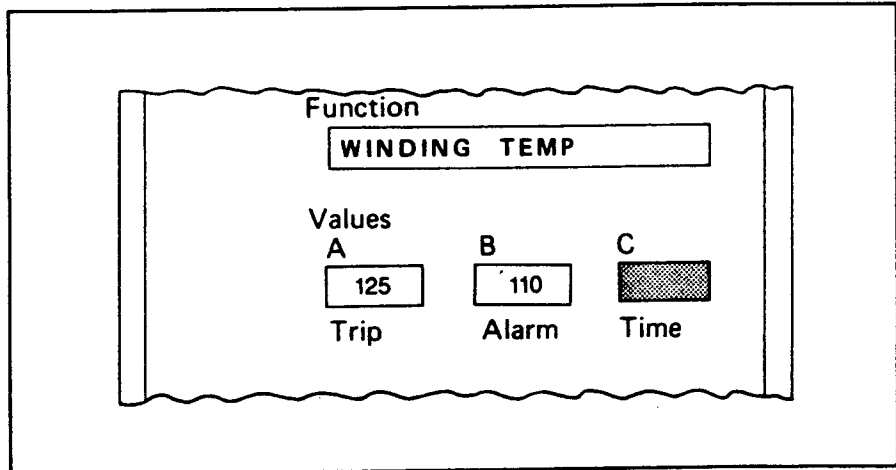

Figure 7.2 — Reviewing Message
Step 1 — Depress the SET POINTS pushbutton. Then depress the STEP pushbutton. At this time WINDING TEMP is displayed in the FUNCTION window. (See Figure 7.2.) Also, all values related to this function are displayed.